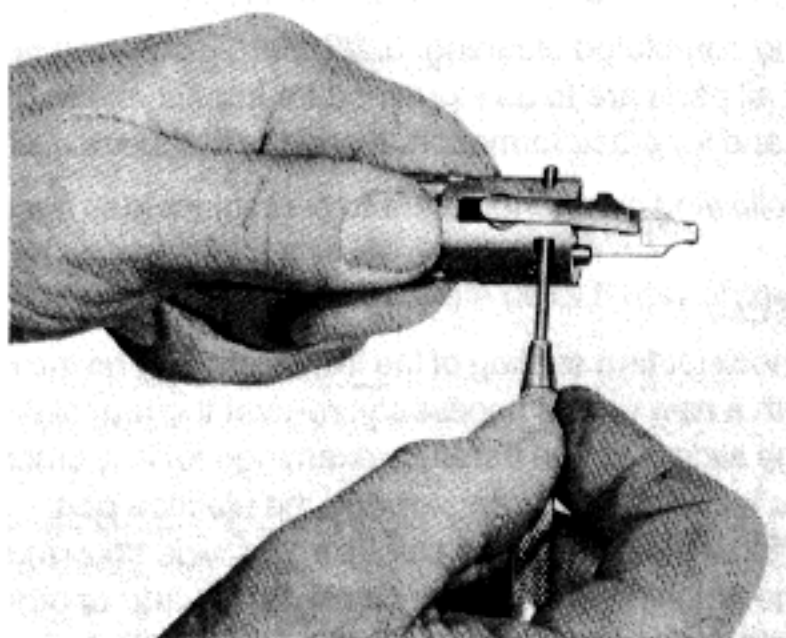

Fig. 12
| 8    | Backing-out punch Ø 2.8           | for cylindrical pin (16) in the bolt head carrier, Fig. 12; for cylindrical pin (6) in the receiver, Fig. 18, 22, 24 and 25; for hammer axle (23), Fig. 21 |
- Press out the cylindrical pin (16) and remove the locking catch (15) together with its compression spring (14) (Fig. 12).